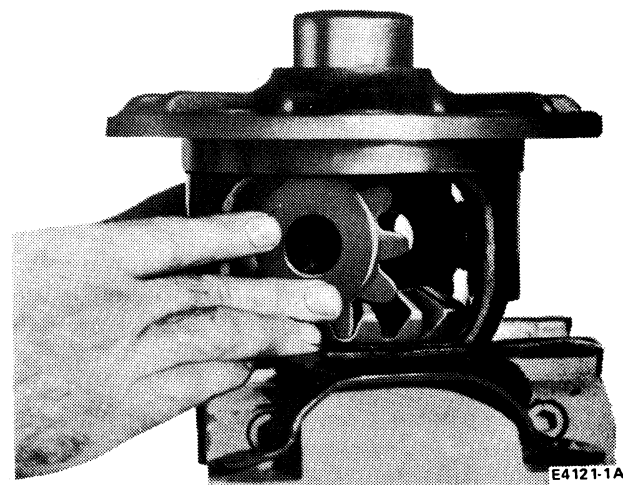

FIG. 27 Removing Mate Gears
- Rotate the pinion mate gears and side gears until the pinion mate gears turn to the windows of the case. Remove mate gears and spherical washers (Fig. 27).